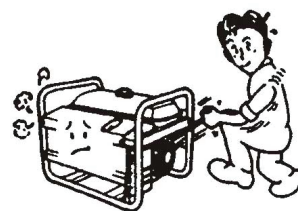

Figure 49
1. Failure to Start the Engine: the generator cannot be started. (Figure 49)